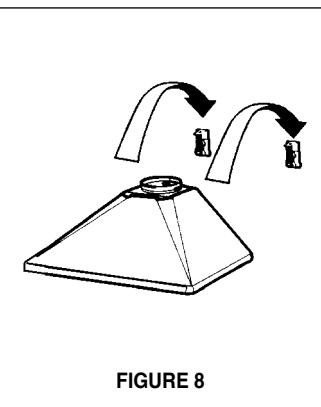

FIGURE 8
4. Hang the canopy on the brackets as indicated in **FIGURE 8**. There are two rectangular holes on the rear of the canopy. The brackets pass through these holes and the canopy hangs from the flanges on the brackets. Due to the weight of the canopy, two people should lift it to avoid injuries. Make sure that the canopy is secure on the brackets before releasing.